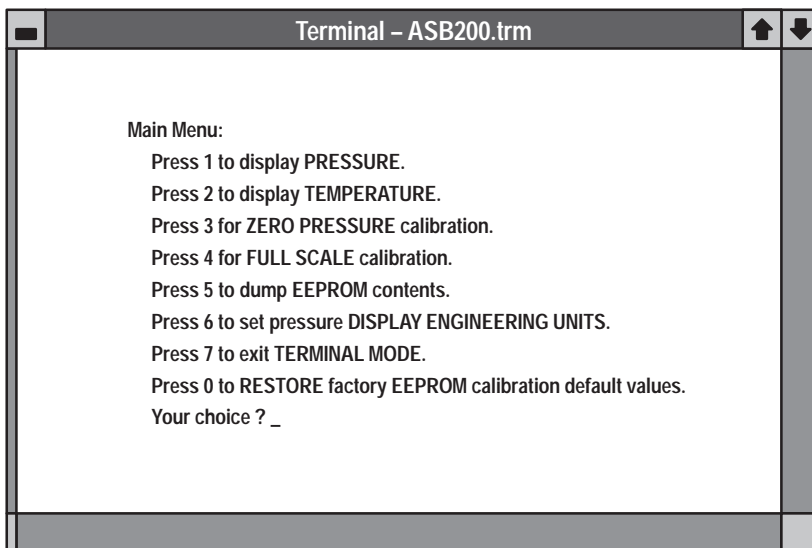

Figure 5. ASB200 Main Menu
4. Restore power to the ASB200 board. The system will start in the non-terminal mode. To activate terminal mode, depress any key on the terminal keyboard. (SW1 must be set per Table 3 when entering terminal mode or the display will display "Err". The error will occur if SW1 was set to display temperature or in the restore factory calibration mode when the system was put in terminal mode). A "Main Menu" will appear on the terminal's display. The menu is shown in Figure 5. Menu choices are driven by a single keystroke. Depressing the "Enter" key on the keyboard is unnecessary.
The main menu as shown in Figure 5 allows the following command options: